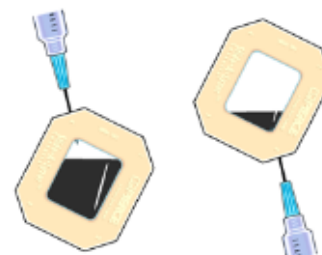

Figure 3. Sample removal
3. Turn the unit so that needle is on the bottom and allow the sample to collect near the port. Withdraw the sample into the syringe (Figure 3).